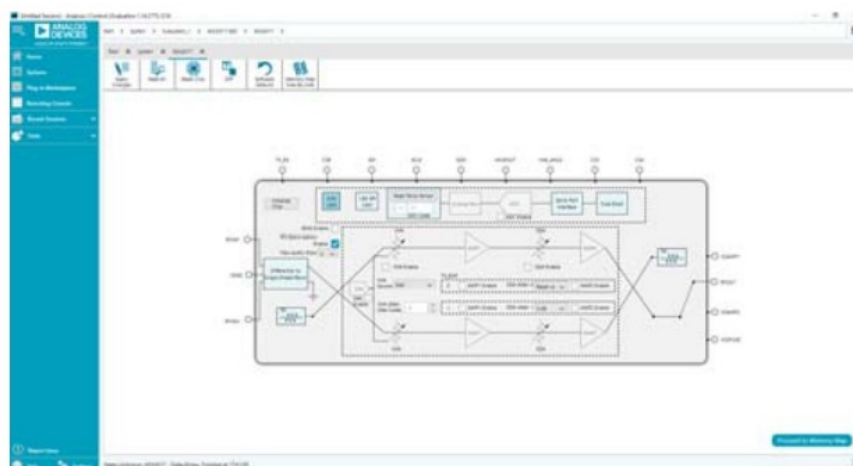

Figure 5. ACE Chip View
3. The software opens the ACE chip view as shown in Figure 5.